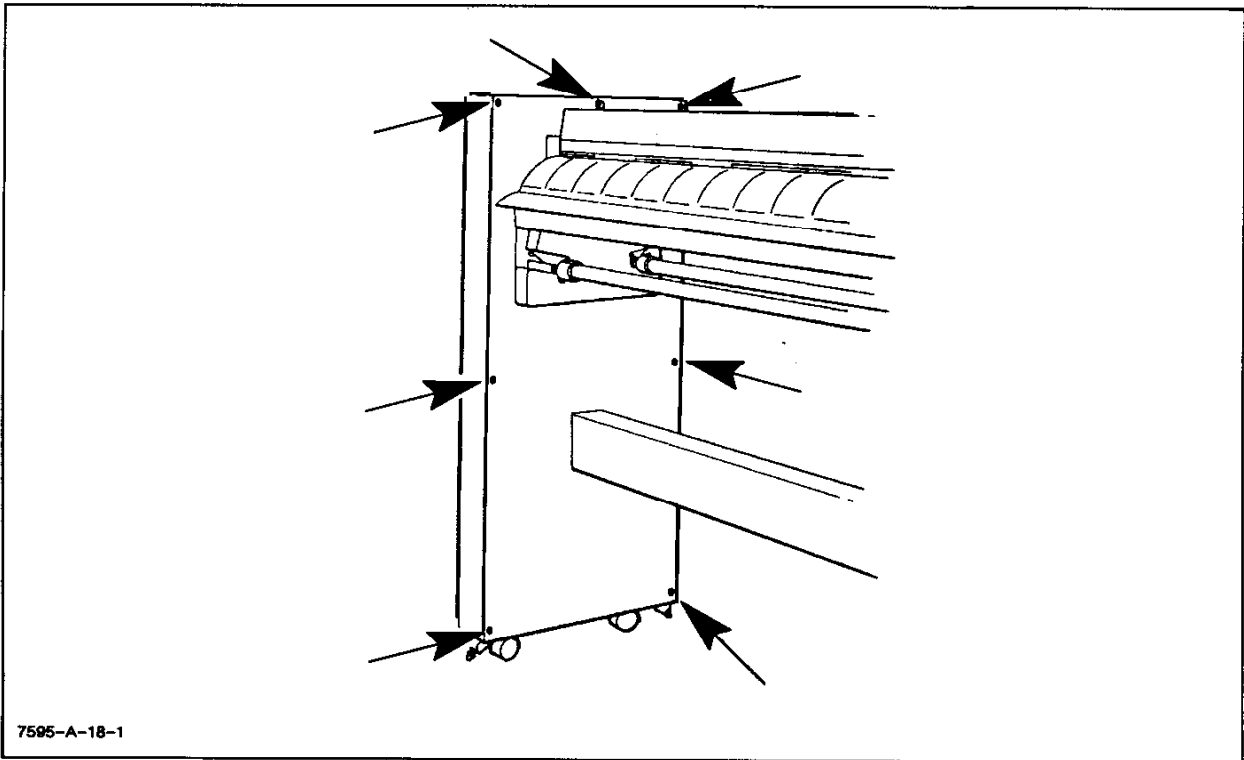

Figure 6-20. Left Side Cover Removal
- a. Turn the plotter line switch to OFF (O) and disconnect the ac power cord.
- b. Remove the seven mounting screws (Torx #25) from the left side cover and remove the cover. See Figure 6-20.